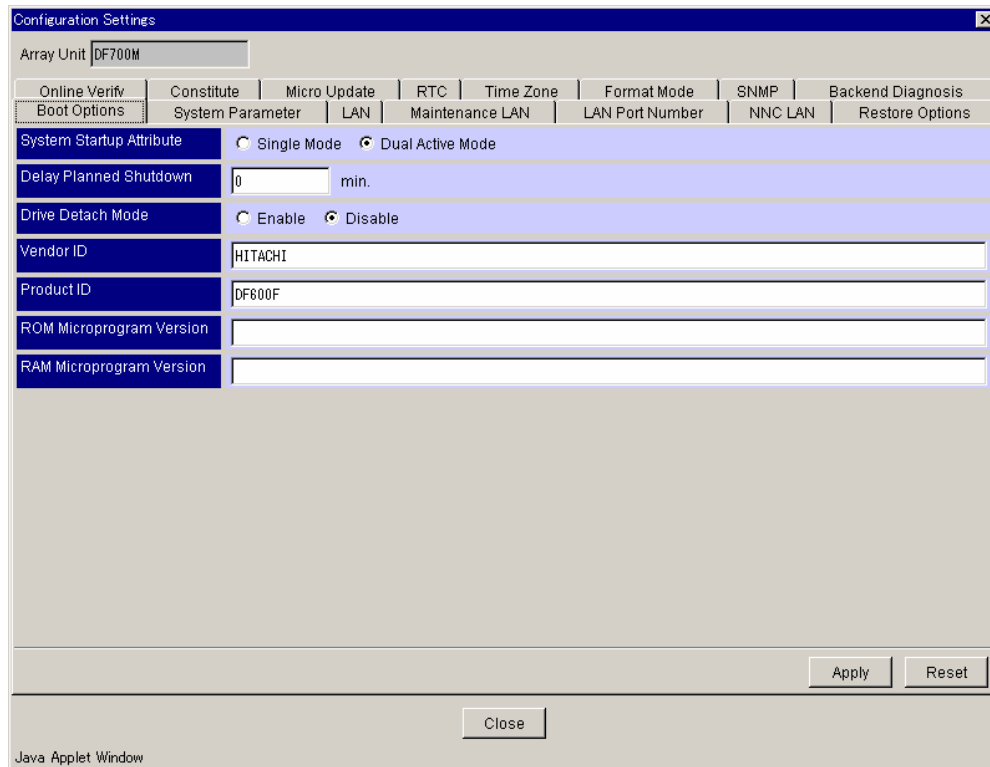

Figure 9.1 Configuration Settings - Boot Option
1. On the Tools menu, select **Configuration Settings** or click . Click the **Boot Option** tab and set the options. See Figure 9.1.